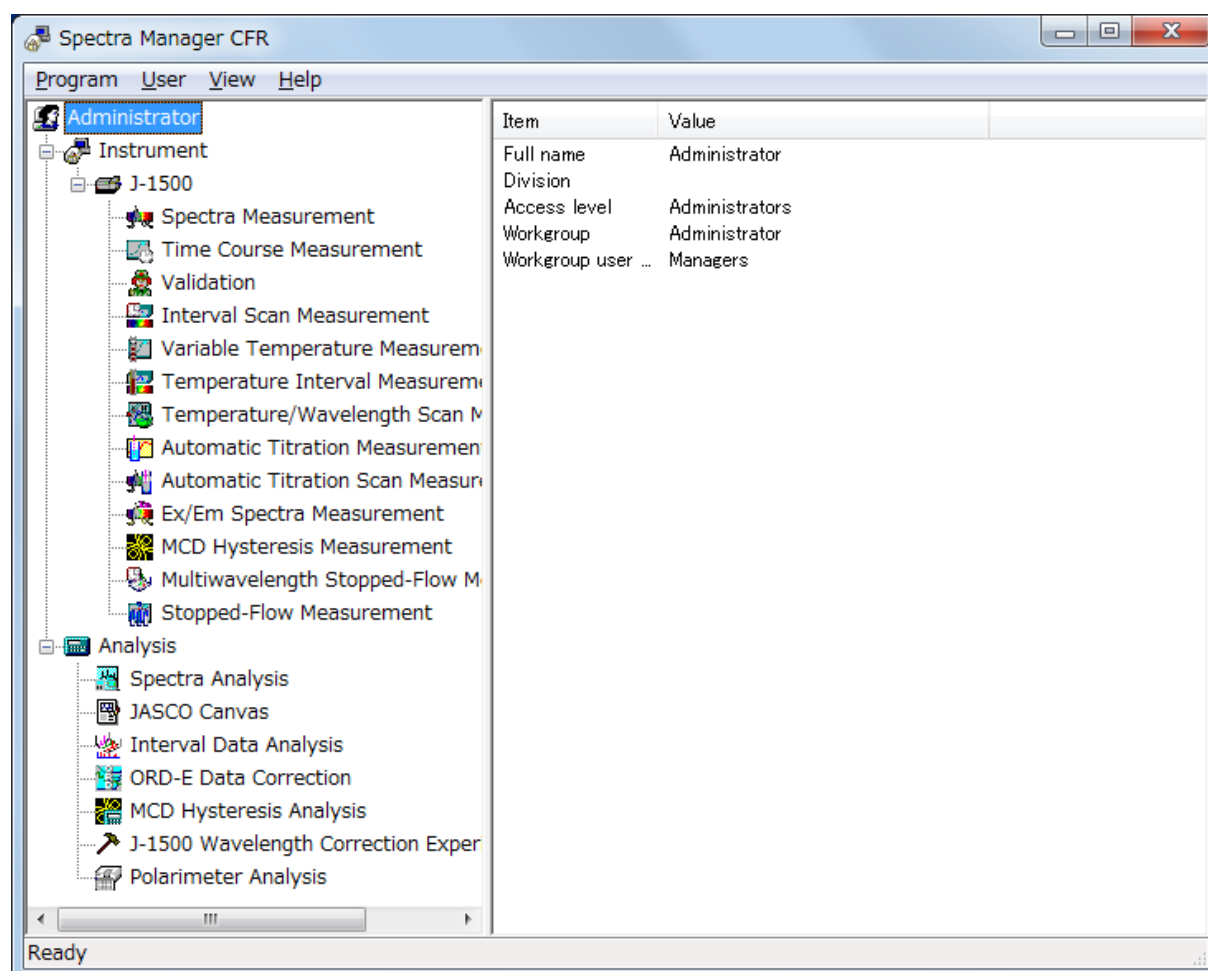

Figure 2.21 [Spectra Manager CFR] window
- (1) After starting *Windows*, double-click the [Spectra Manager] icon located on the *Windows* desktop. Type the username and password in the logon dialog box to display the window in Fig. 2.21.